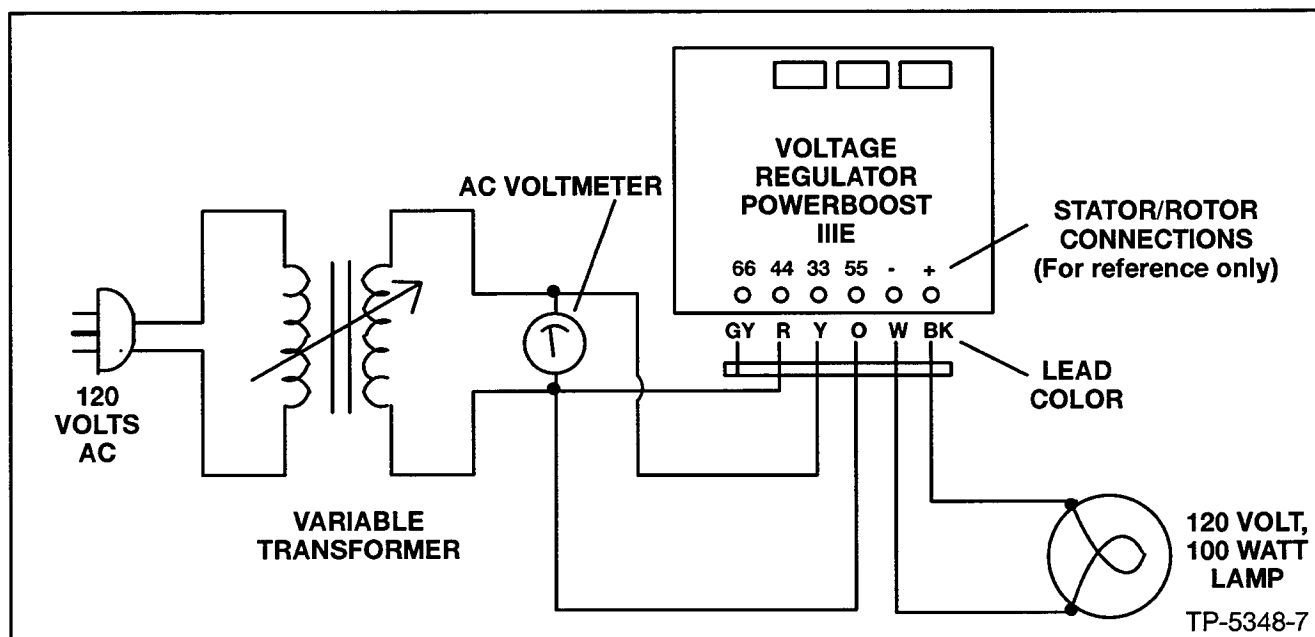

Figure 7-3. PowerBoost III E Voltage Regulator Test
2. Connect components as shown in Figure 7-3.